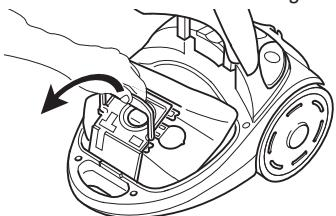

Fig. 19
3. Pull the dust bag holder up and out together with the dust filter bag (Fig. 19).